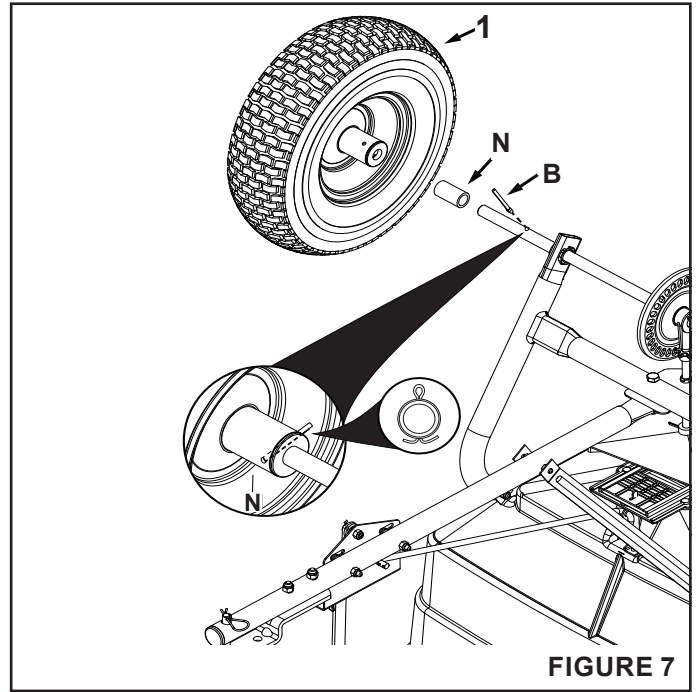

FIGURE 7
STEP 7: (SEE FIGURE 7)
- Attach a wheel to the left side of the axle by sliding a spacer (N) onto the axle, followed by a wheel (1). Secure the wheel to the axle using a large cotter pin (B) through the wheel and through the hole in the shaft. Bend the ends of the cotter pin to secure it. See figure 7.